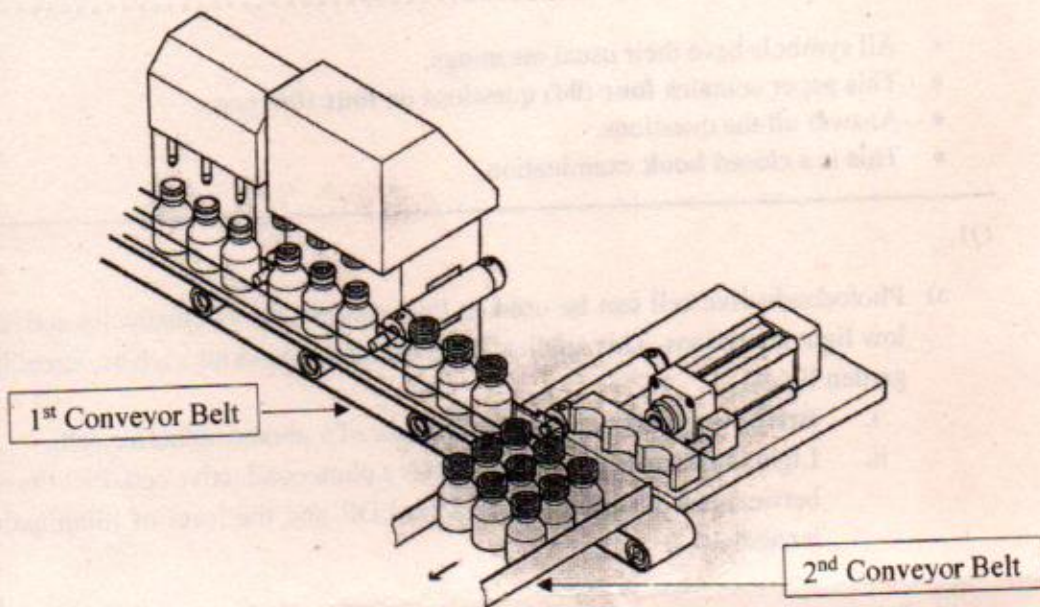

Figure 01: The system of diverting bottles from one conveyor belt to another
- b) Imagine a bunch of bottles need to be diverted from the first conveyor belt to the second conveyor belt by using a diverting device as shown in Figure 01. There is a magnetic proximity switch at the end of the belt to identify reaching bottles to that point. When it detects, the packaging is directed to the second conveyor belt. Once switched on, the system is designed to operate continuously and should remain the operation until a stop signal is generated.